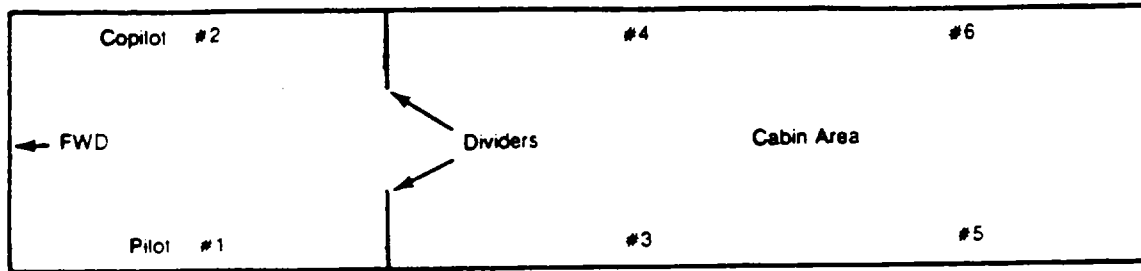

Figure 21-33. Air Conditioning Outlets
OUTLET NO. (Refer to Fig. 21-33)	FEET PER (MIN.)
1. The air flows at the individual outlets should fall at or above the velocities shown in Chart 2108. For purposes of identification, the outlets are numbered left to right, forward to aft, starting with the pilots outlet (No. 1) as shown in Figure 21-33.